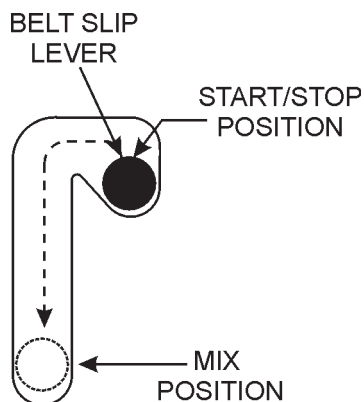

Figure 16. Belt Slip Lever (Start/Stop Position)
- Place the **belt slip lever** (Figure 16) in the **START/STOP** (disengaged) position.